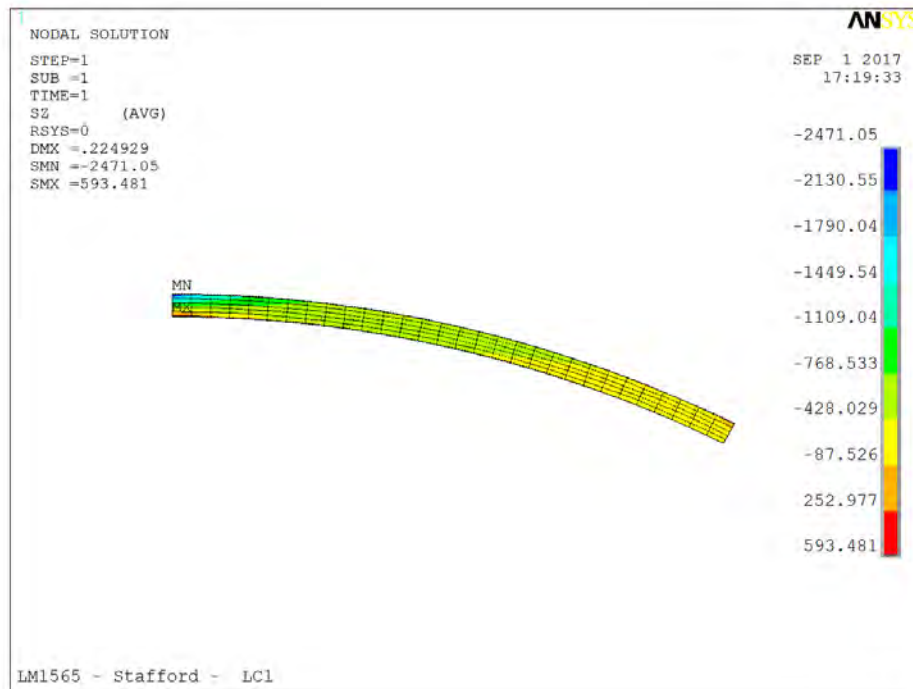

Fig. 1I
- **Fig. 1I - Dome hoop stress**